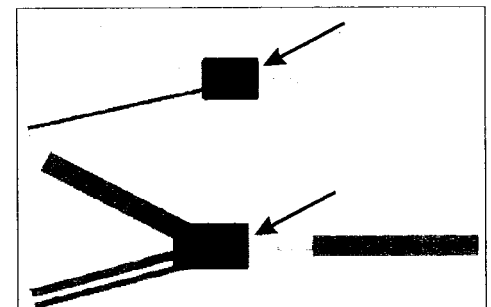

Figure 3
8. Twist bare copper conductors together and install both wires into the large end of a step heat shrink butt connector. This interconnects the yellow wire and yellow w/black stripe wires going rearward. (Figure 3)
13. Strip back 5/16" of the wire insulation on the dark green wire coming from the front of the chassis and connect it to the open end of the butt connector for the dark green and dark green w/white stripe wires connected in steps 9. (Figure 3)